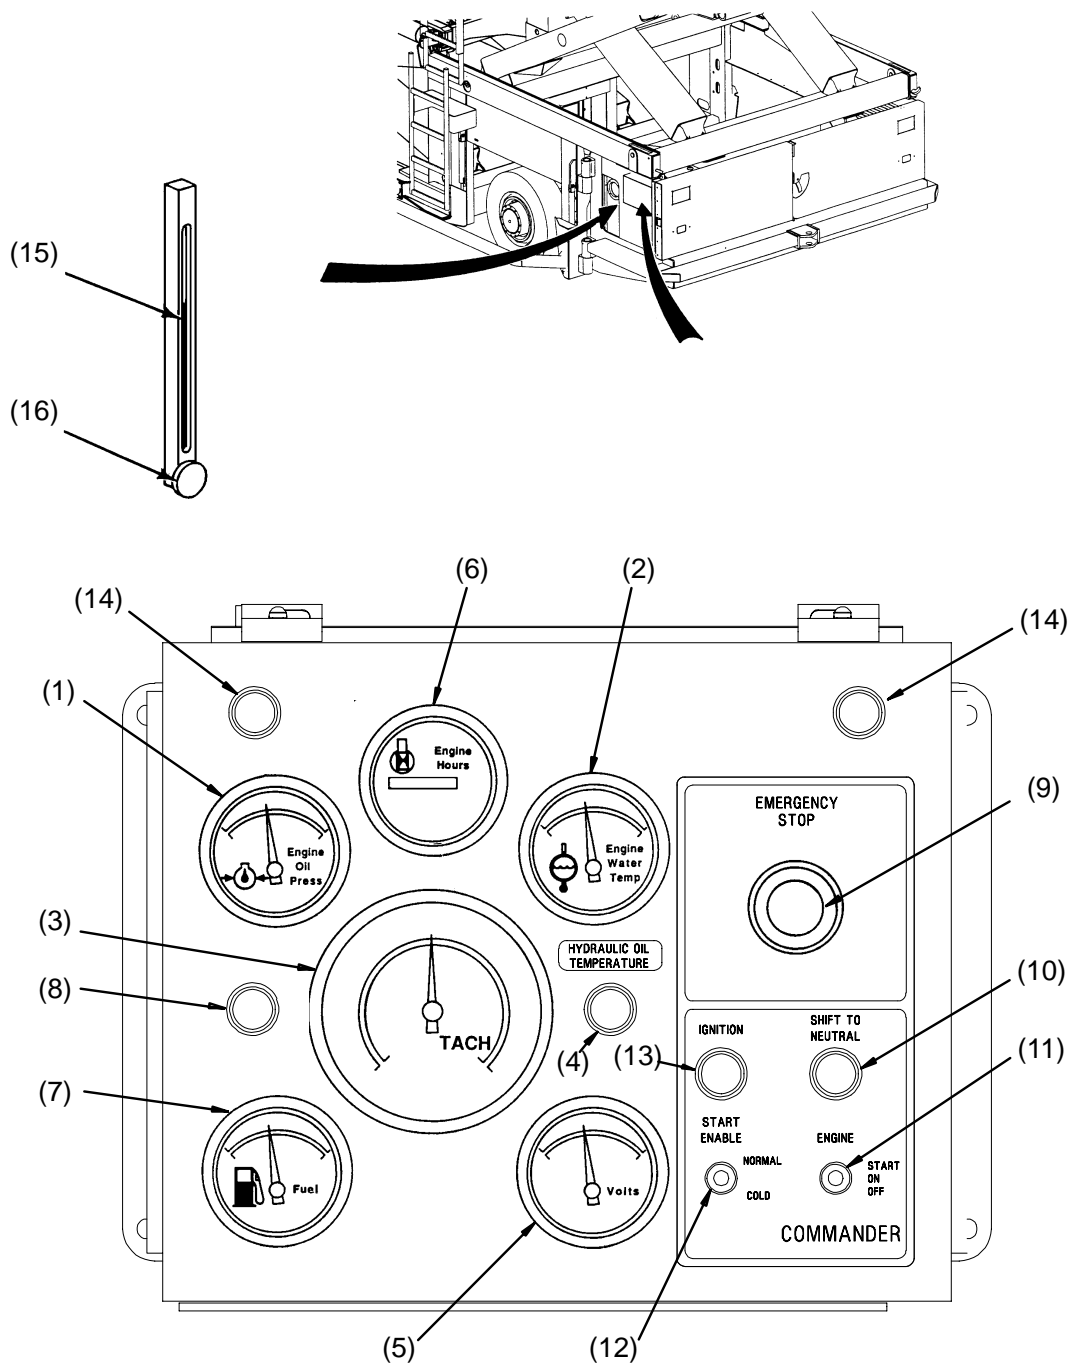

Figure 9
- (8) BRIDGE TILT (OPTION) – two toggle switch operation.
- (9) FLOODLIGHT SWITCH (OPTION) – two-position toggle switch; turns floodlights on or off.
- (10) TRANSFER MODE (OPTION) – a truck trailer or dolly height can be selected through a switch. Additional transfer modes are available for 60" transfer and super lower option.
- (11) BRIDGE FRONT ROLLER INHIBIT (OPTION) – a switch can be selected for normal operation or inhibit the front rollers.
- (12) HYDRAULIC SYSTEM PREHEAT (OPTION) (amber) – illuminates when switch is on. Hydraulic oil is preheated before operation.
- D. Gauge Panel and Miscellaneous Controls (Figure 9)
- (1) OIL PRESSURE GAUGE – indicator in green area shows satisfactory engine oil pressure. Indicator in red area shows that pressure is low.
- (2) COOLANT TEMPERATURE GAUGE – indicator in green area indicates satisfactory operating temperature range. Indicator in red area indicates excessively hot temperature.
- (3) TACHOMETER (OPTION) – for engine protection, indicates engine RPM.
- (4) HYDRAULIC OIL TEMPERATURE (red) – illuminates when hydraulic oil is hot (82.2°C [180°F]).
- (5) VOLTS GAUGE – indicates voltage output of generator.
- (6) HOURMETER – indicates total hours of engine operation.
- (7) FUEL LEVEL GAUGE – indicator shows approximate level of fuel in tank. Red area at lower left shows limited amount of fuel available and indicates that loader should be refueled to insure that operations can be continued without interruption.
- (8) LOW FUEL INDICATOR (red) – for engine protection: illuminates when remaining fuel is low (19 liters [5 gallons]) or light will flash (optional).
- (9) EMERGENCY STOP SWITCH – when pushed in, shuts off power unit. Switch is not to be used for routine shutdown of power unit. Ignition light and proximity switches remain ON when emergency stop is pushed.